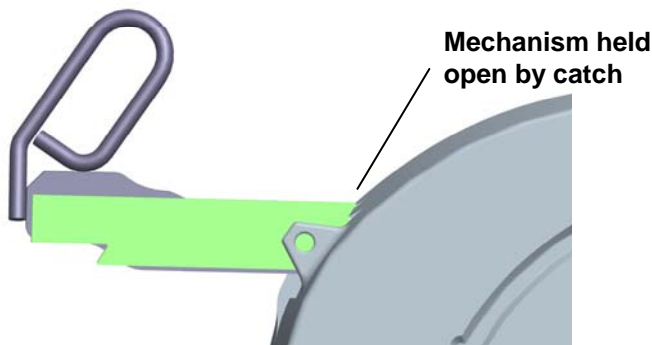

FIGURE 6
3. Depress the push button energizing air cylinder. The cylinder extends causing release arm to unlock Fifth Wheel (see figure 6).
Note: The air cylinder will retract after releasing the push button and the mechanism will be held in the open position by a catch on the release handle until the kingpin is removed from the fifth wheel (see figure 6).